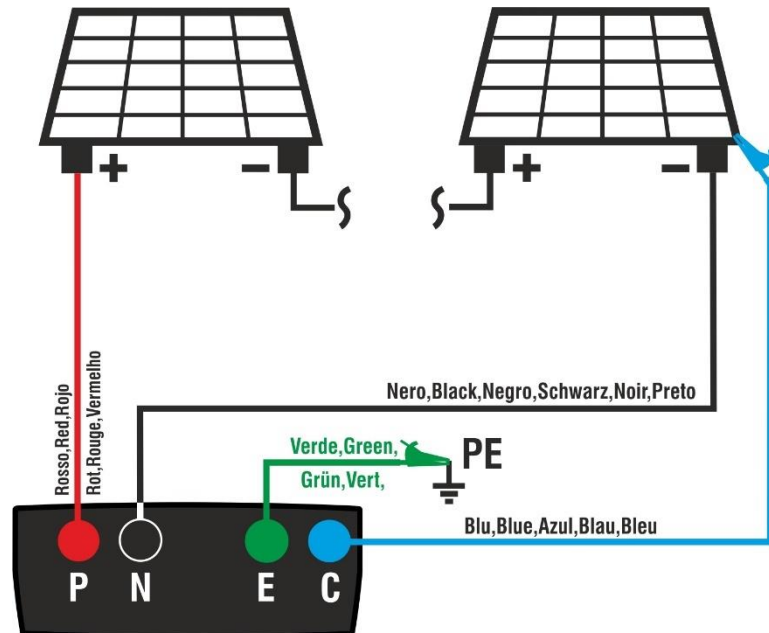

Fig. 10: Connection for IVCK tests without remote unit
5. Connect the instrument to the PV module/string being tested and to the main earth node of the system, and to the metal masses connected to earth as shown in Fig. 10. In particular, connect the negative output pole of the PV module/string to terminal N and the positive output pole of the PV module/string to terminal P.